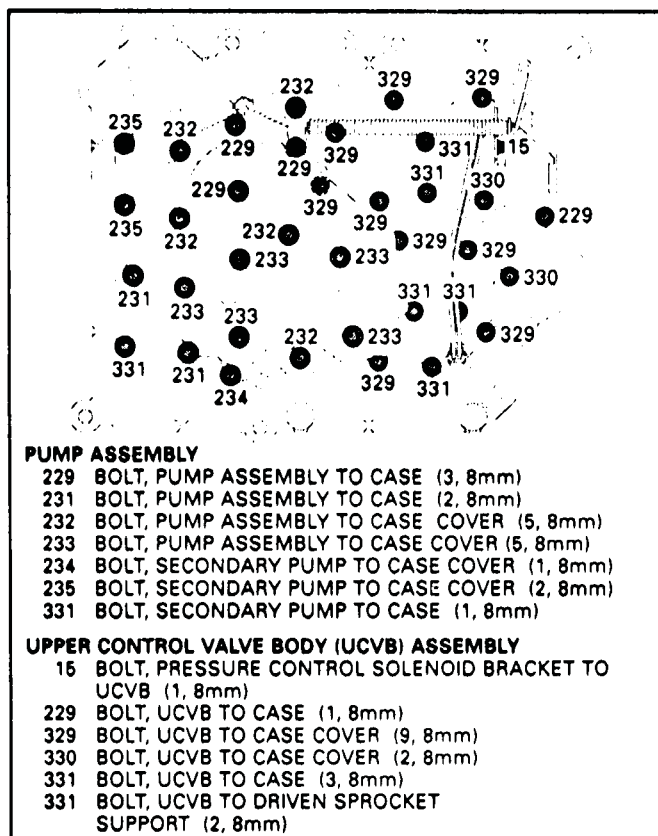

Figure 50
7. Remove nineteen 8mm bolts located on the pump housings, and indicated in Figure 50.